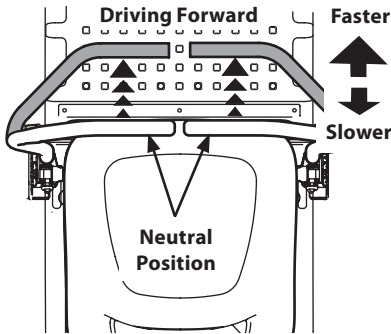

Figure 21
1. Slowly and evenly move both lapbar drive control levers forward. The tractor will start to move forward (Figure 21).